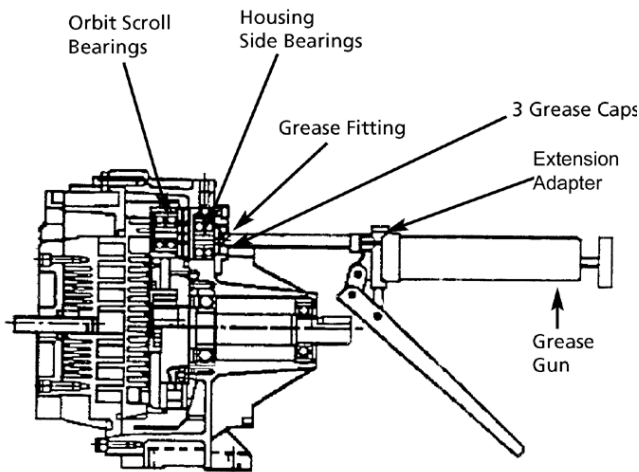

Figure 13. Greasing the Pin Crank Bearings.
- d. Remove the three grease caps (see Figure 13).
- e. Grease all three pin crank bearings using the grease gun and the extension adaptor or the needle adaptor as required. Refer to Figures 13, 14 and 15. The housing side bearing requires use of the needle adaptor for greasing. Pump the grease gun five (5) times for new compressors and three (3) times for existing compressors. Each pump of the grease gun equals 0.65 grams of grease.